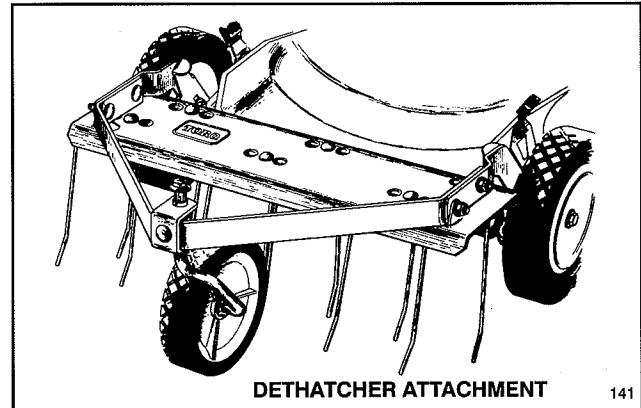

Figure 30
3. Dethatcher Kit, Model 59131 (self-propelled model only)—Installs in minutes. Front mounted for easy maneuverability. Spring tines loosen thatch for easy cutting (Fig. 30).